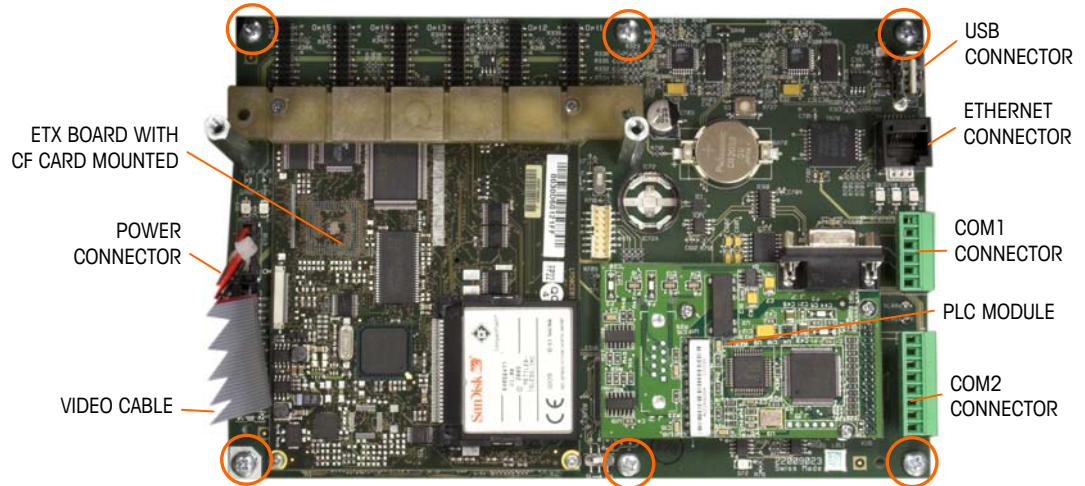
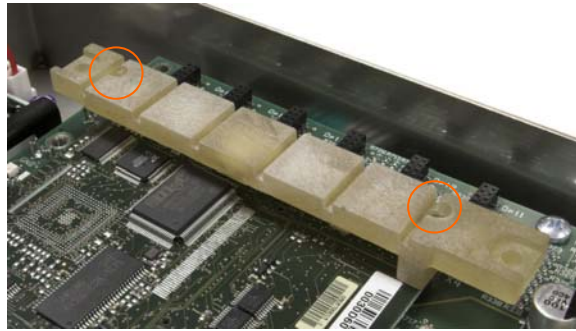
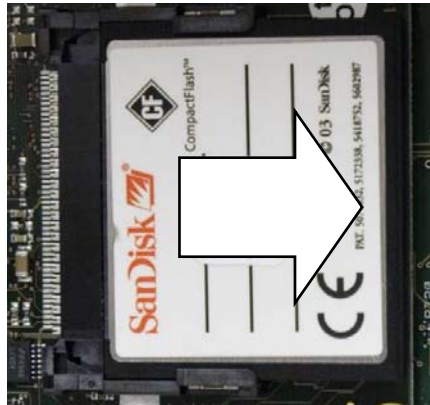

Figure 3-53: Main PCB Connections and Mounting Screws
Figure 3-55: Lower Card Guide Screw Locations
Figure 3-61: CF Card Removal
9. Remove all peripheral connectors from their sockets – COM1, COM2, Ethernet, USB, power and video. Connector locations are indicated in Figure 3-53.
11. Unscrew and remove the six screws holding the main PCB to the enclosure. Their locations are circled in Figure 3-53. In the case of a panel mount terminal, the four outer fasteners will be hex post stand-offs, as shown in Figure 3-54.
1. Remove the two screws holding the lower card guide and the ETX board to the main PCB (Figure 3-53). The locations of these screws are indicated in Figure 3-55.
- Note the orientation of the ETX board indicated in Figure 3-53. The ETX connectors are arranged so that it cannot be installed backwards.
5. Install screws to secure the board to the main PCB. Two of these screws also attach the lower card guide. This bar is asymmetrical, and must be mounted in the orientation indicated in Figure 3-55. Note that the longer end is oriented toward the main PCB battery.
To remove a CF card from the ETX board, hold the sides of the CF card and carefully slide it out of its socket, in the direction indicated in Figure 3-61. It may be necessary to move the card slightly side to side to disengage it. If any PLC interface module option is installed, it may need to be removed first.
Note that Figure 3-61 and Figure 3-62 show the CF card in the same orientation as in Figure 3-53.